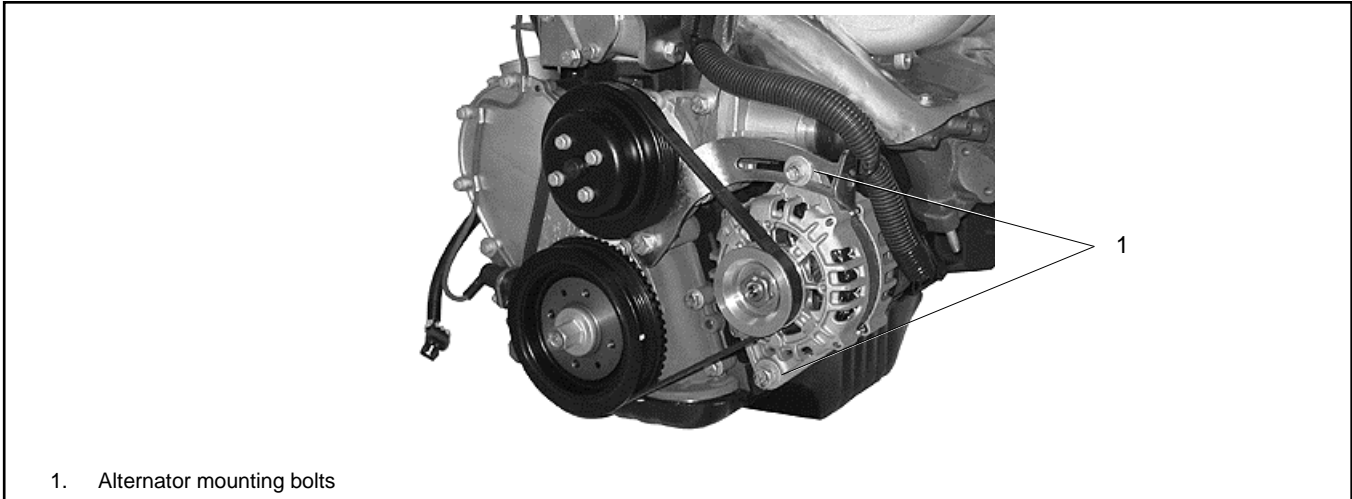

Figure 38 Alternator Mounting Bolts
1. Loosen the two alternator mounting bolts. See Figure 38.